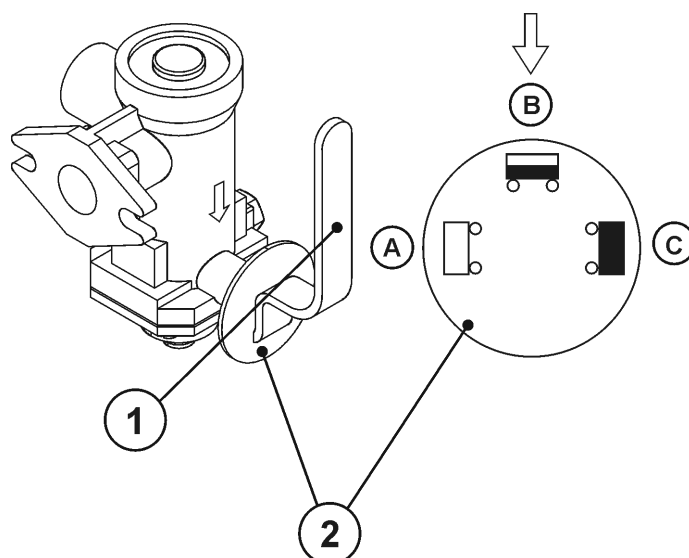

FIG. 12.
The three-stage brake force controller used in both single- and double conduit systems matches the brake force to current load of the trailer. Switching to proper working mode is realised manually by the operator with the lever (1) prior to start of driving. The controller has three working positions: „No load”, „Half load”, „Full load”. The structure of the controller is shown on the Fig. 12.